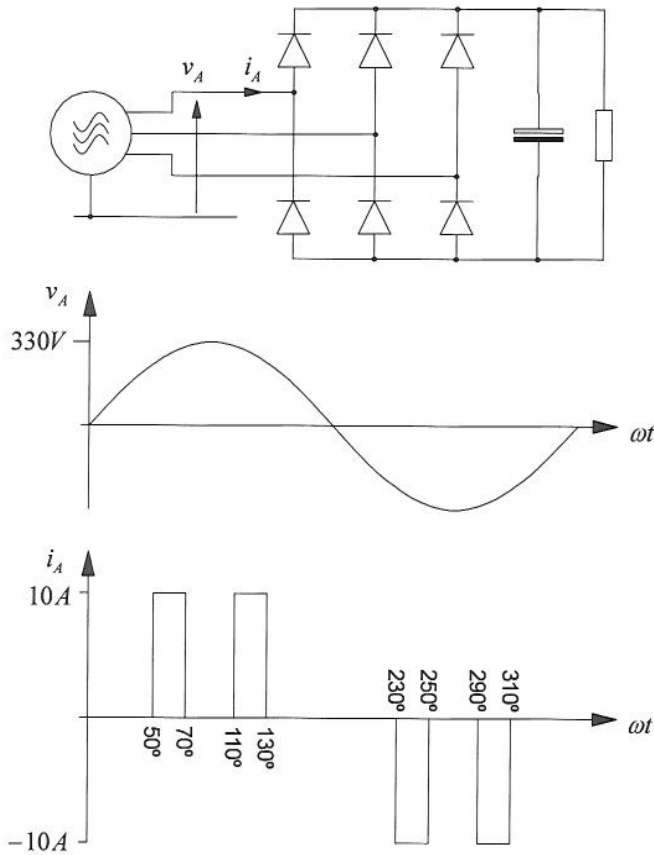

Figure Q5.1 A three-phase diode rectifier and voltage and current waveforms
5. (a) The rectifier circuit shown in Figure Q5.1 draws the phase current shown from phase voltage shown. Calculate the real power and power factor. [6]
- (b) Explain why diode rectifiers such as that in Figure Q5.1 cause problems in electrical networks. [3]